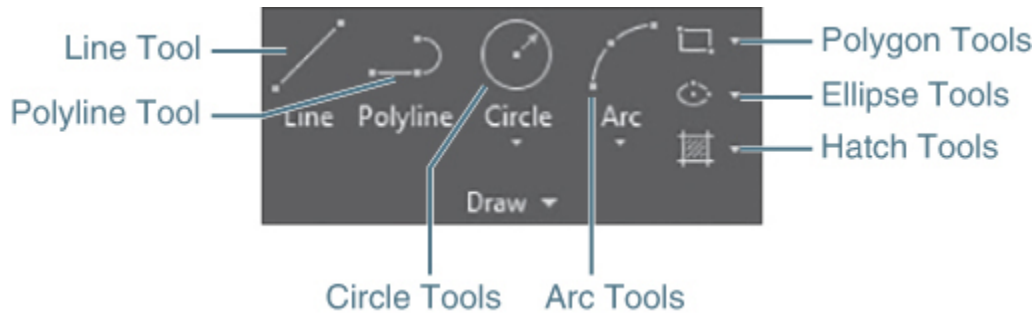

Figure 2-9
- 2 Choose the **Line** tool from the **Draw** panel (see Figure 2-9). AutoCAD prompts you to *Specify first point:*.